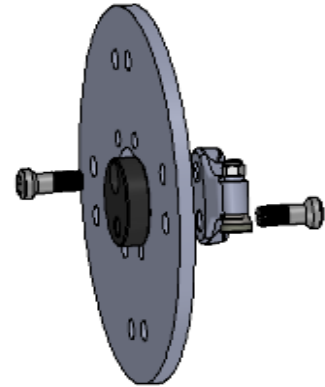

Figure 1.1
6. With the pocket on the right side of the wheel, slide the bolts of the **LoPro™** straight pocket through the empty holes in the wheel and thread it into the adjacent **LoPro™** block's threaded holes. For now, firm up the bolts until this set is seated. (Figure 1.1)